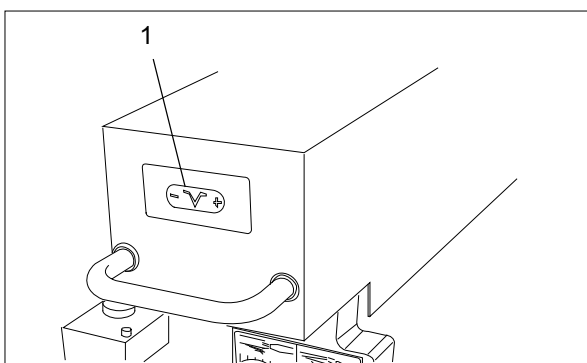

Fig. 24 Rear edge separator
The position of the rear edge separator can be re-adjusted by means of the plus-/minus keys (Fig. 24/1).
2. Adjust the position of the rear edge separator with the plus-/minus keys (Fig. 24/1).